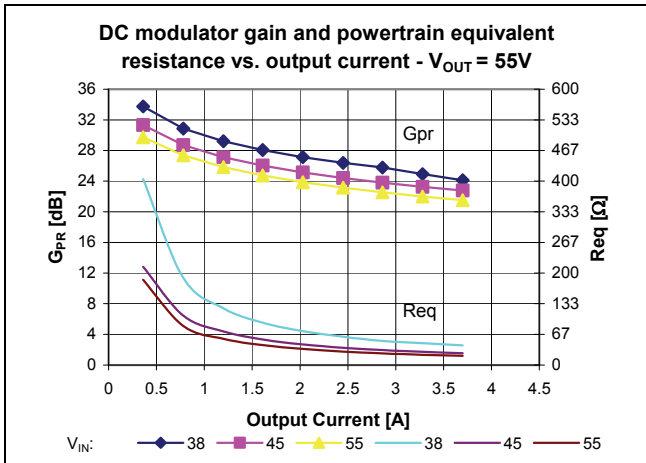

Figure 17 – Powertrain characteristics vs. I_{OUT} ; Resistive load, $V_{OUT}=55V$, various V_{IN}
The powertrain small signal (plant) response consists of a single pole determined by the load resistance, the powertrain equivalent output resistance, and the total output capacitance (internal and external to the module). Both the modulator gain and the equivalent output resistance vary as a function of line, load and output voltage, as shown in Figures 17, 18 and 19. As the load increases, the powertrain pole moves to higher frequency. As a result, the closed loop crossover frequency will be the
- Modulator Gain G_{PR} : See Figures 17, 18, 19
- Powertrain equivalent resistance r_{EQ} : See Figures 17, 18, 19